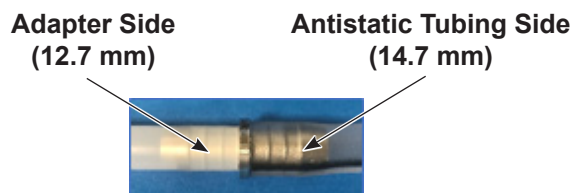

Figure 11 Fitting Adapter Installation
3. See Figure 11. Install tubing onto the fitting adapter.